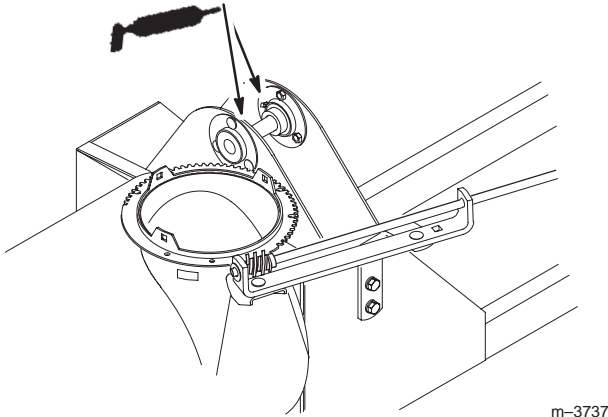
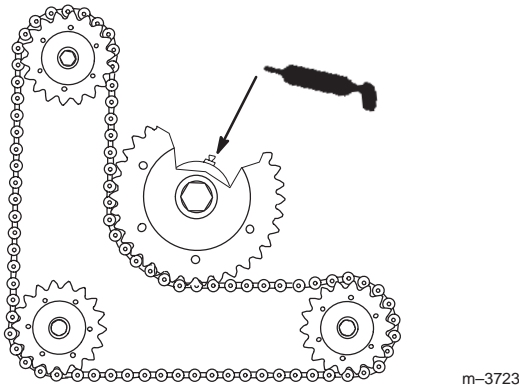

Figure 33
Figure 34
1. Lubricate the jack shaft bearings (Fig. 33) and drive bearings (Fig. 34).